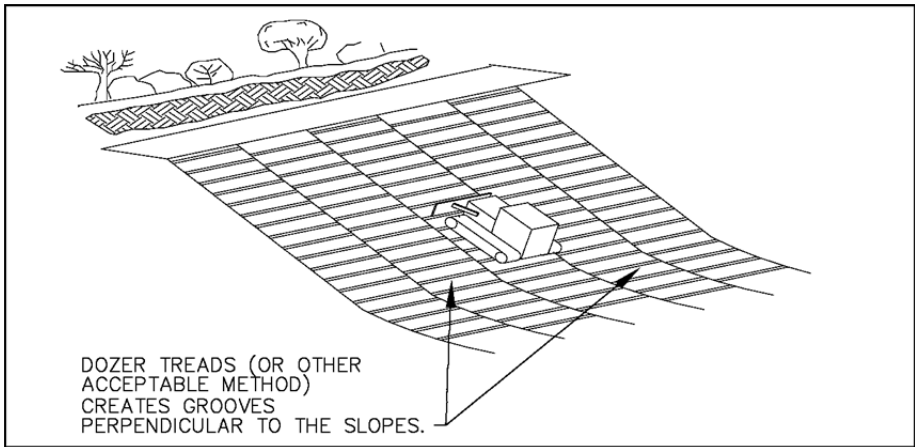

Figure 6: Tracking a Fill Slope
- Tracking Slopes (**Figure 6**) consists of leaving cleated track marks parallel to contour by running machinery with cleated tracks up and down a slope. If a bulldozer is used the blade should be up.